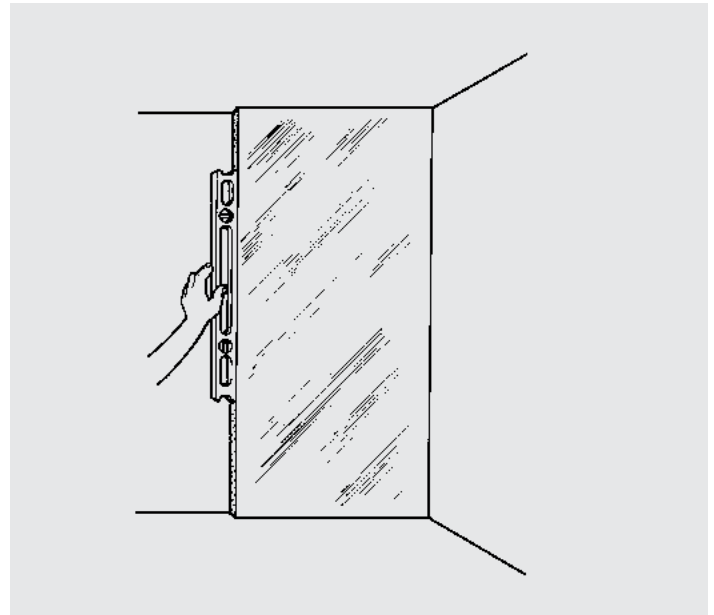

Figure 1.
- When installing **Thermax™ Sheathing**, boards must be fitted tightly together vertically and at right angles (90 degrees). See Figure 1. End-joint gaps greater than 1/8" should be filled with spray foam such as **Great Stuff Pro™ Gaps & Cracks Polyurethane Foam Sealant*** or equivalent to keep a continuous air infiltration barrier and to help ensure maximum thermal efficiency across the board joints.